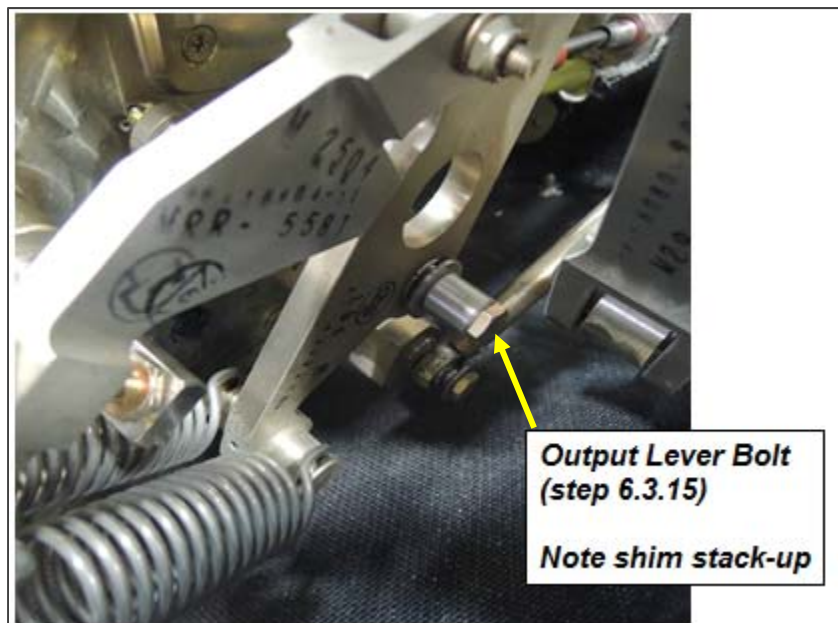

Figure 10. Correlator Output Lever
6.3.15 Remove the output lever bolt and associated hardware (Figure 10). Note the shim stack up during removal.
- 6.4.12 Reinstall the output lever bolt and associated hardware (Figure 10).